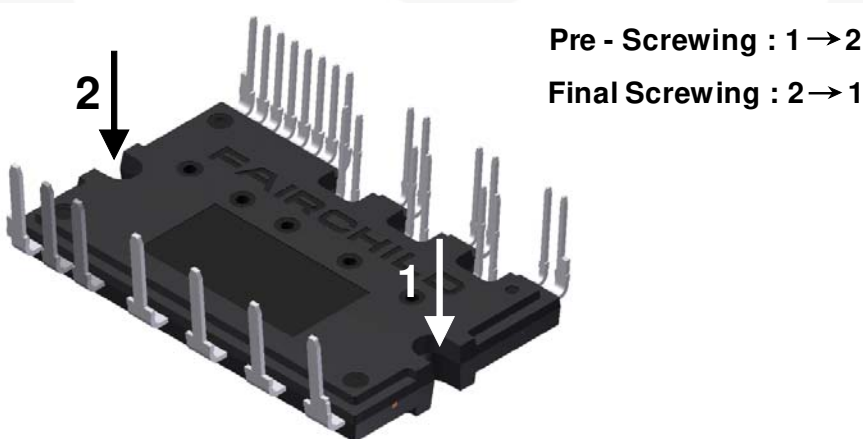

Figure 10. Mounting Screws Torque Order
- 12. Avoid one-sided tightening stress. Figure 10 shows the recommended torque order for mounting screws. Uneven mounting can cause the DBC substrate of package to be damaged. The pre-screwing torque is set to 20 ~ 30% of maximum torque rating.